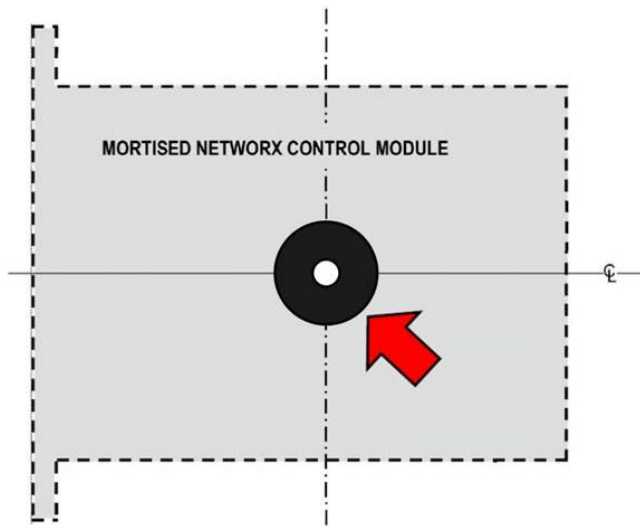

FIG. 7A: INSTALL OPTICAL LIGHT PIPE
- Press firmly to ensure the light pipe is securely installed on the door surface (see Fig. 7A).